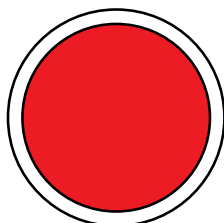

Figure 56. Circuit Breaker OFF Button
2. Press the **Circuit Breaker OFF button** (Figure 56) on each generator in the paralleled system.